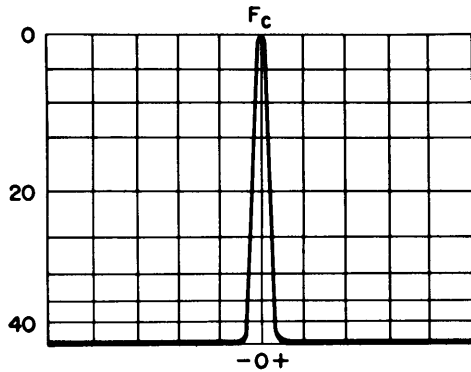

Figure I-3-3. Appearance of Carrier Alone
(3) Carrier Frequency Appearance. The carrier frequency normally appears in the center of the screen as shown in figure I-3-3. When only the carrier is being transmitted, this will be the appearance on the PTE screen, plus some minor hum and spurious products (not shown) that may be present. Such products should appear at least 50db down on a correctly adjusted transmitter.